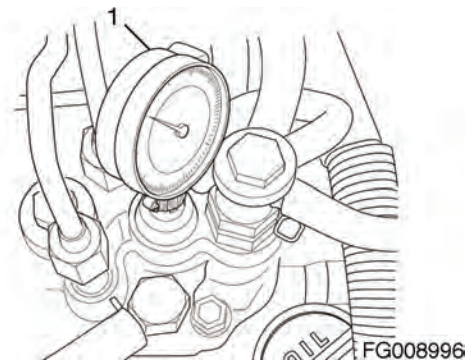

Figure 283
3. Note the reading on the dial indicator (1, Figure 283). If the reading is less than 2.5 mm (0.098 in.), the fuel injection timing is "retarded." If the dial indicator reading is greater than 2.5 mm (0.098 in.), the fuel injection timing is "advanced."